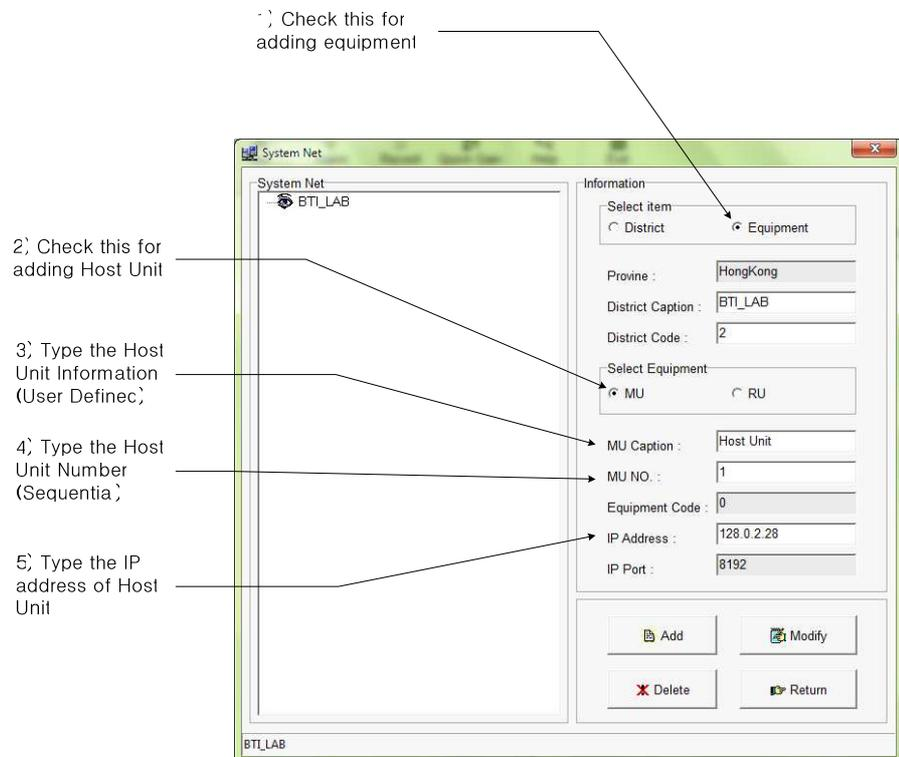
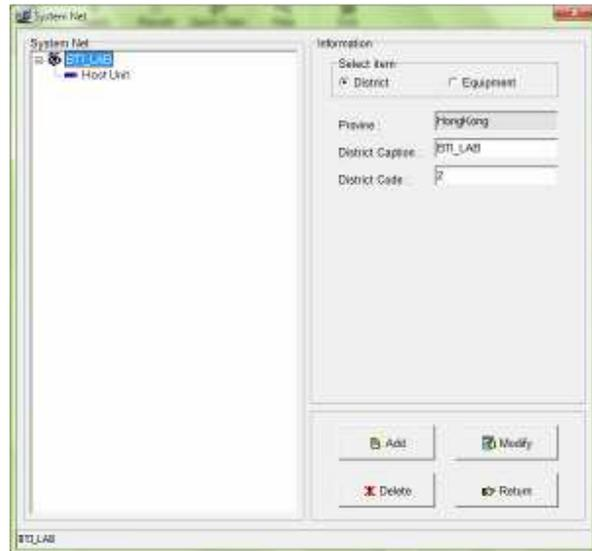

Figure 3-8. Add the Host Unit in the System configuration
Figure 3-9. Result Window after adding HU
6. After configuring the District, the equipment should be defined. Check the **Equipment** title and new information sections will be appeared as shown in Figure 3-8. Host Unit should be defined first before adding Remote unit. Check the **MU** title and type the information for Host Unit. After filling the information, click the **Add** button. Figure 3-9 shows the result for adding Host Unit in the system configuration.